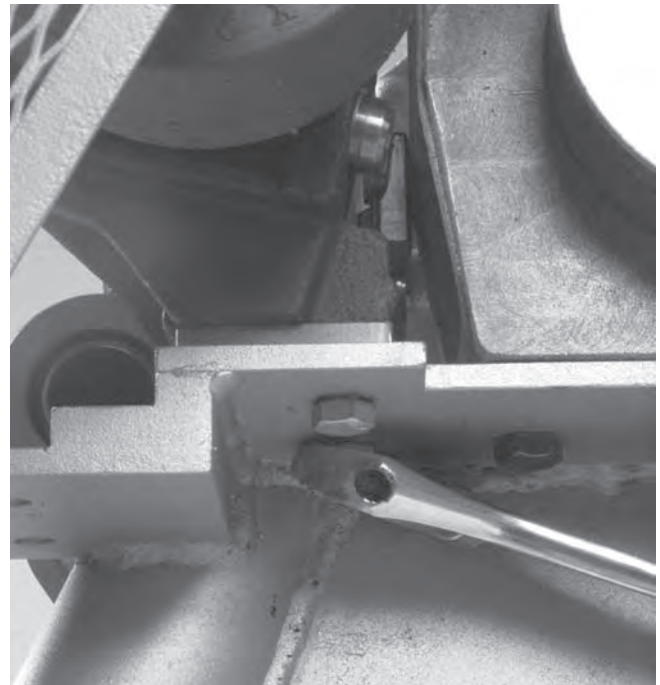

Figure 11 – Removing Bolts Holding Stabilizer
1. Remove the two $\frac{3}{8}$ " bolt that hold the stabilizer in place ($\frac{9}{16}$ wrench or socket) (*Figure 11*).